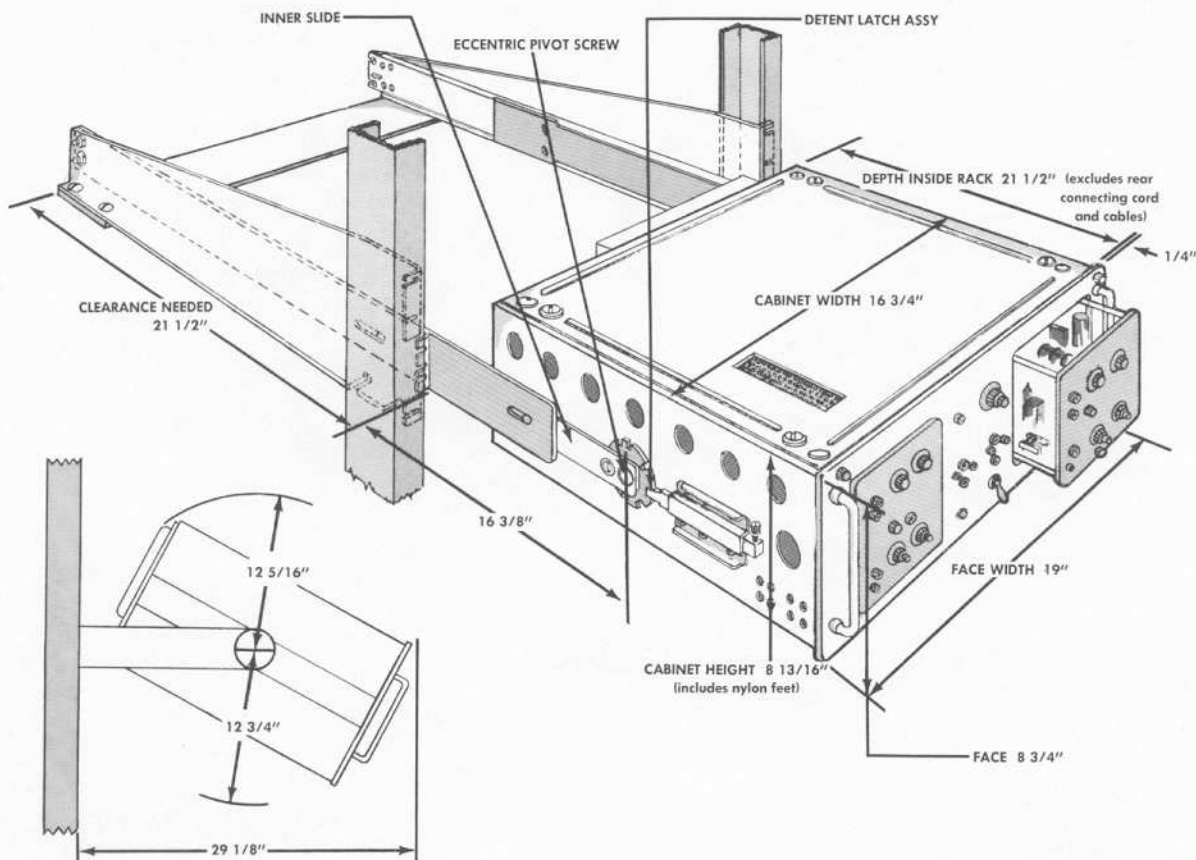

Fig. 2-3. Type 127 mounting dimensions. These dimensions determine the space you must allow for the installation of your 127.
the relay rack. Fig. 2-3 shows the dimensions you must consider when providing the power cord.
3. Using Fig. 2-3 as a guide, assemble the cradle and Chassis-Trak on the corresponding rails of the relay rack, allowing 1-7/8 inches between the center of the top mounting screw and the position you selected for the top of the 127 front panel.
5. Place the Type 127 in the Chassis-Trak slides as shown in Fig. 2-3. Operate the slide mechanism several times with the instrument installed. If the operation of the slides is not smooth, loosen all of the bolts and allow the slide mechanism to adjust to the weight of the instrument. Be sure to retighten all bolts after the mounting has been adjusted.